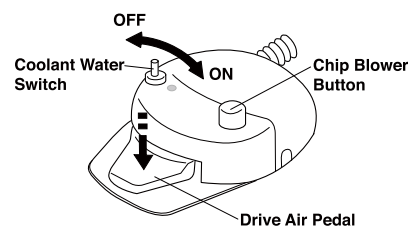

Fig.3-32 Foot Control (Type A2)
(1) Foot Control (Type A2) (Fig.3-32)